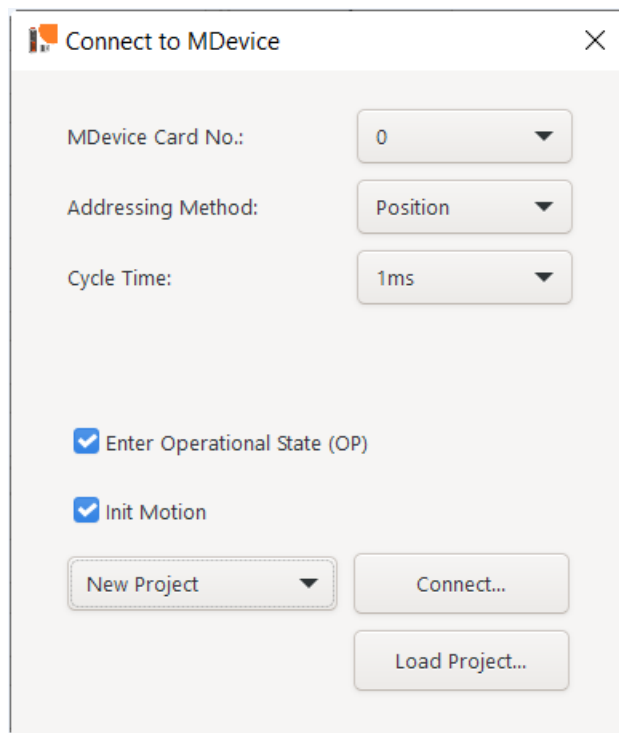
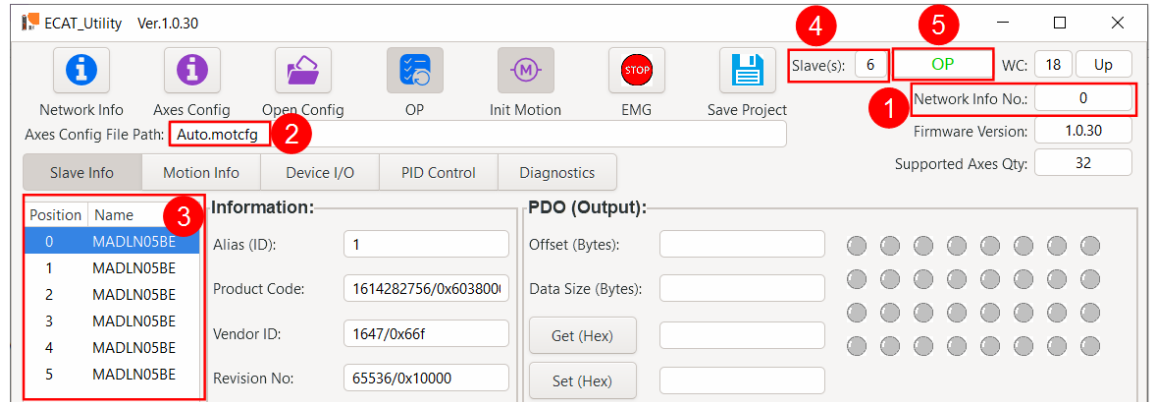

Figure 19: Project configuration
Figure 21: Utility in OP mode
Step 3: The popup window requires you to do the following configurations (Figure 19):
After the scan process successfully completed and if the '*Enter Operational State (OP)*' and '*Init Motion*' is enabled (Figure 19), then the utility automatically executes the following steps (Figure 21)
The utility allows you to configure network settings manually. The following steps are necessary if the 'Enter Operational State (OP)' (Figure 19) has been disabled or you want to change the automatically generated configurations.
If the '*Operational State (OP)*' (Figure 19) is enabled the ECAT-Utility during startup automatically scans and configures the EtherCAT network and switches the EtherCAT state machine into OP mode. If '*Init Motion*' (Figure 19) is enable the utility will automatically do the basic motion configuration if no axis configuration has been done prior. Every stepper/servo slave on the network can now be controlled directly from the utility by using the default axis settings.